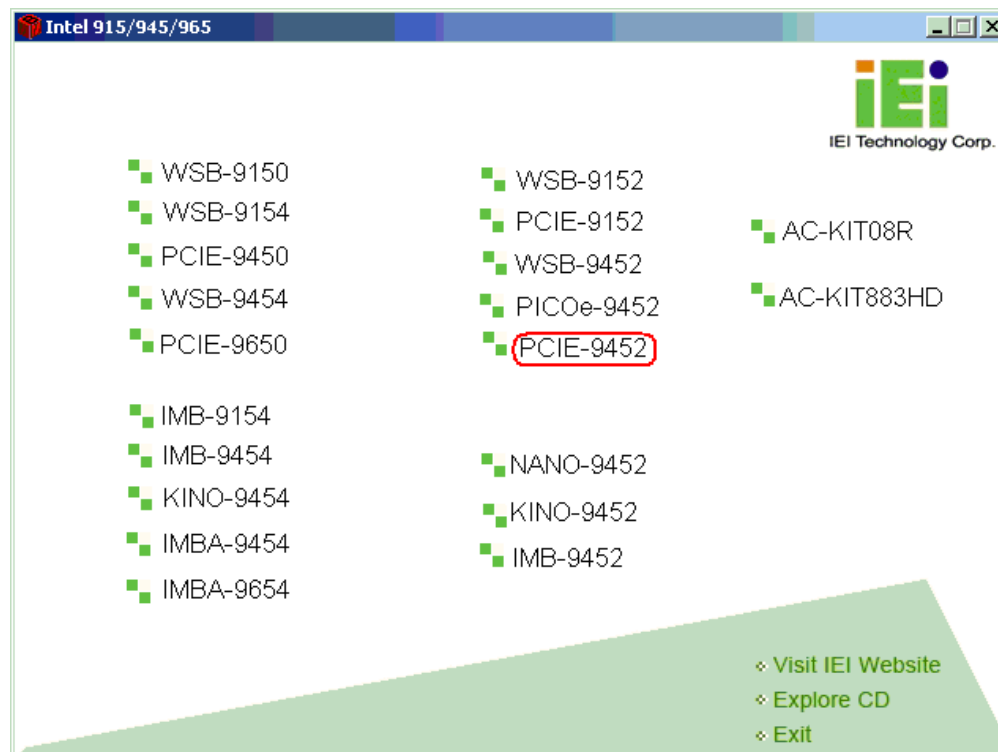

Figure 7-1: Introduction Screen
Step 3: Select PCIE-9452 from the initial menu shown in **Figure 7-1**.